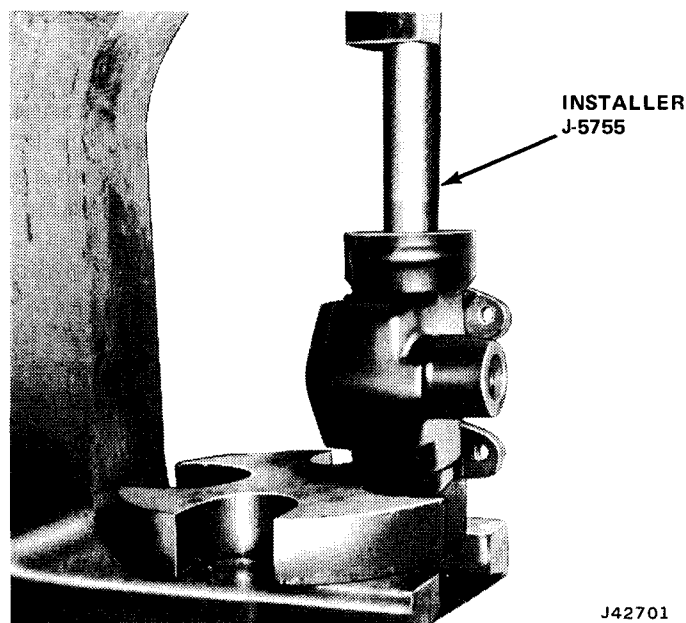

Fig. 11-57 Pressing in Bearing Cup
(4) Install clamp over two ball guides and install attaching bolts and washers.
(5) Rotate worm through complete travel several times to be sure balls are installed correctly and rotate freely. Do not allow ball nut to bottom at end of worm travel; this could damage ball return guides.
(6) If bearing cups were removed from worm adjuster or housing, press in new bearing cup, using Wormshaft Bearing Cup Installer J-5755 (fig. 11-57).
(7) Install upper worm bearing on upper part of wormshaft and center ball nut on worm.
(8) Install assembly in housing with bearing seated in bearing cup.
(9) If bearing was removed from worm adjuster, install a new bearing and retainer in worm adjuster.
(10) Install adjuster in bottom of housing. Seat wormshaft in lower bearing in adjuster.
(11) Install bearing adjuster locknut, but do not tighten. Turn wormshaft until center tooth space of ball nut is centered in opening for side cover. Install correct shim, and lash adjuster screw in T-slot of pitman shaft.
(12) Install pitman shaft in housing, meshing center tooth of sector gear on shaft with center tooth space of ball nut.